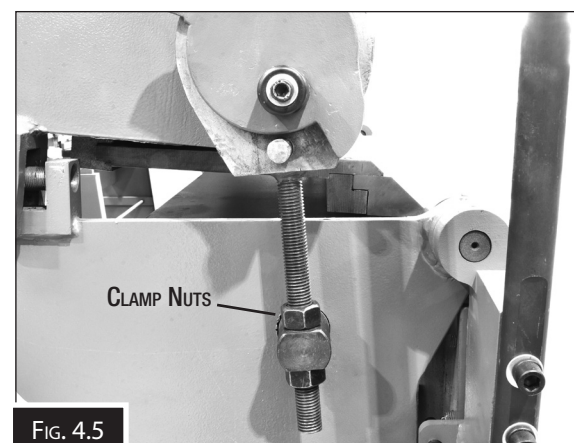

FIG. 4.5
1. Position two pieces of metal the same thickness as the work-piece on each end. When the fingers are slightly touching the workpiece, the clamping handles on the end of the machine should be at 2 o'clock position when viewed from that end. (Fig. 4.5)